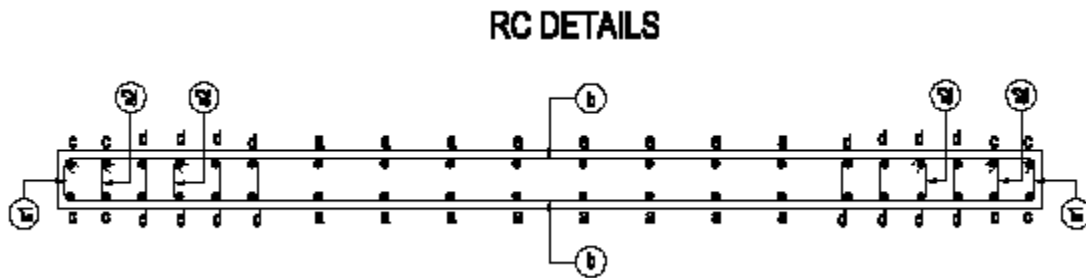

Fig 8.3.2
- Make the reinforced concrete details for each zones (Fig 8.3.2)